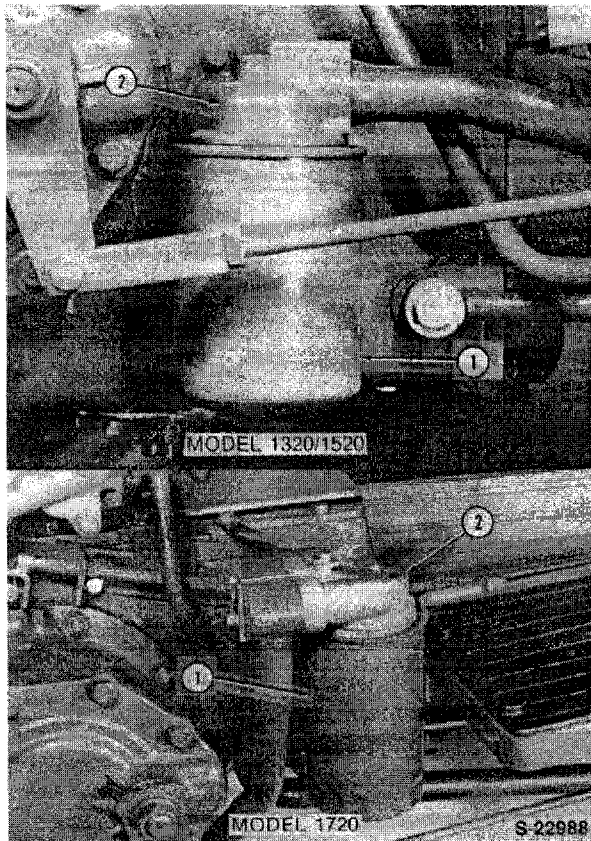

Figure 58
A suction type filter (1), Figure 58, is located in the inlet line on the right hand side of the rear axle center housing. The filter is serviced by replacing the complete canister assembly.